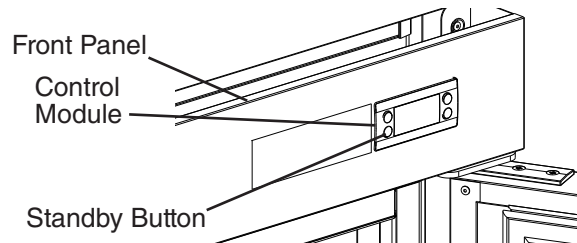

Fig. 76
2) Press and hold the standby button on the control module until "OFF" appears in the display, then unplug the appliance from the electrical outlet. See Fig. 76.